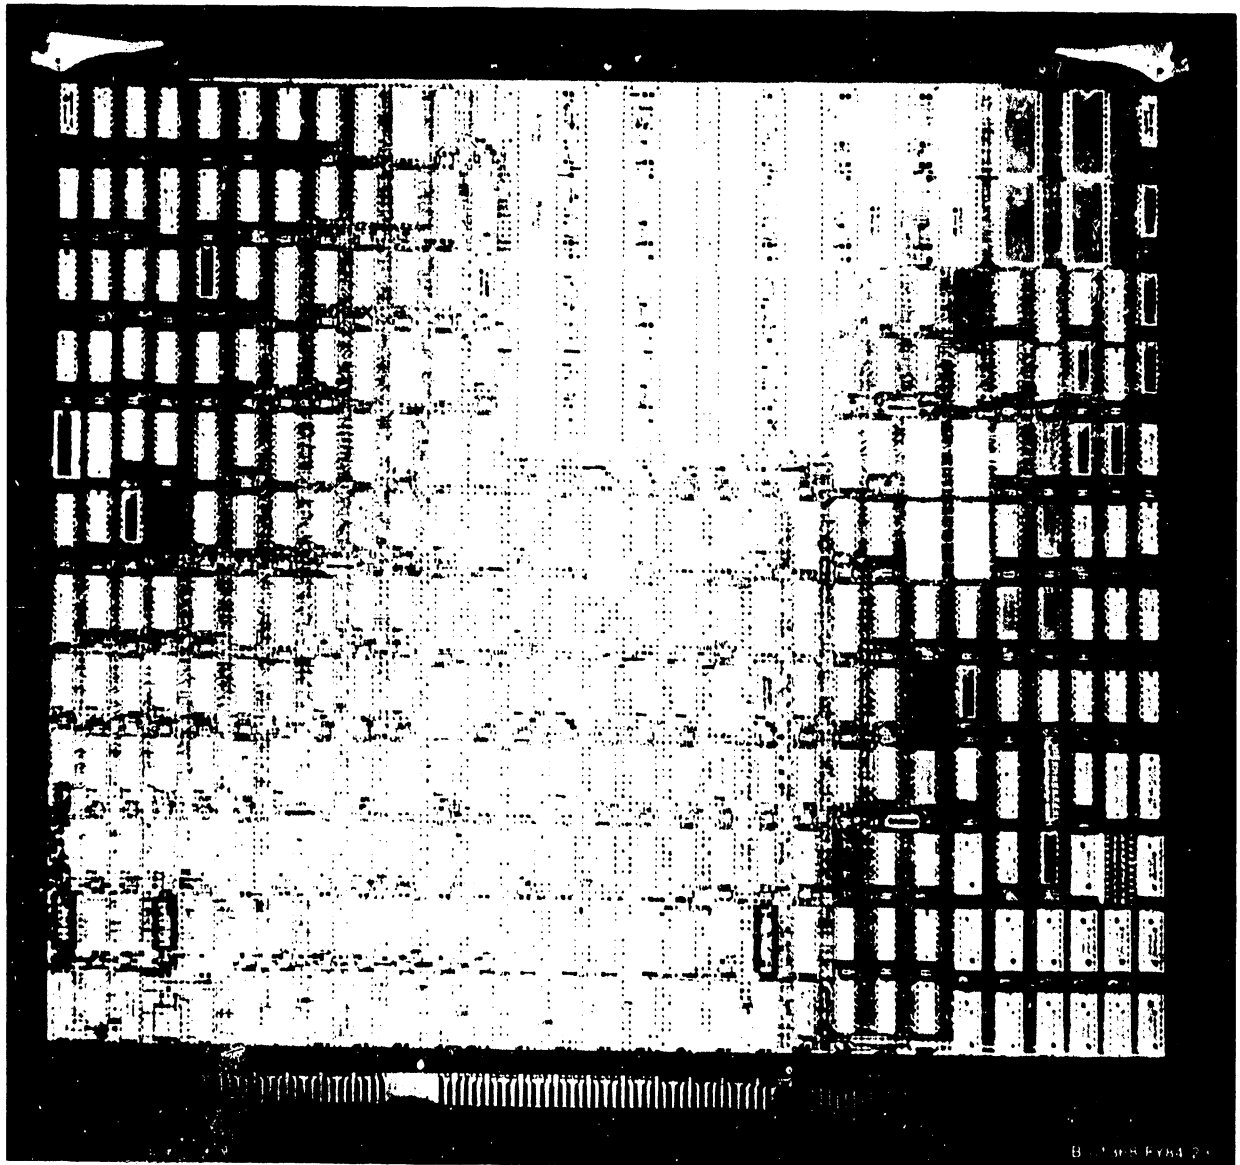

Figure 5-6. 210-8303 CPU Board
1. Remove the CPU board (figure 5-6) from Motherboard slot #2 as described in 5.3.2.4.1. (Be careful the snaplock tabs don't damage the two top corner chips on the CPU.)